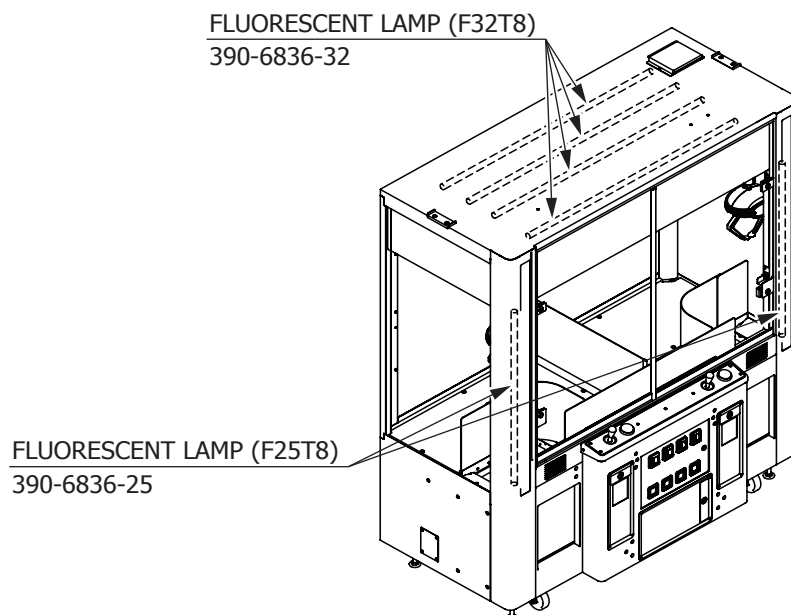

FIG. 16-1
2. Loosen the two screws and remove the switch cover. Hold the switch cover (L) while removing so it will not fall.
3. Remove fluorescent lamps by pushing them upward and replace. (See FIG. 16-1.)